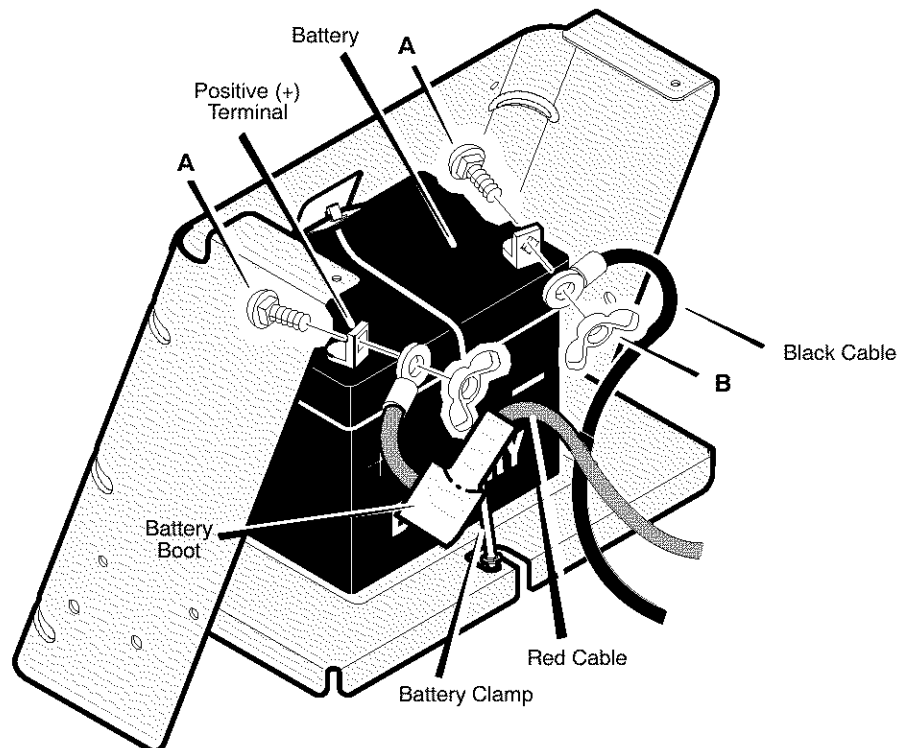

Figure 16
1. Disconnect the **black cable** from the **negative (-) terminal** (Figure 16).